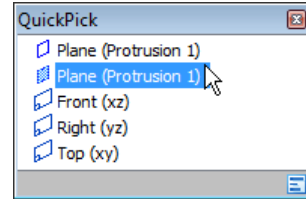

Figure 1-15 The **QuickPick** dialog box
1. Bring the cursor near the element or the component that you need to select. Now, pause the cursor, and when three dots appear close to it, right-click on the screen. On doing so, the **QuickPick** dialog box will appear with an entry of each possible selection, as shown in Figure 1-15.